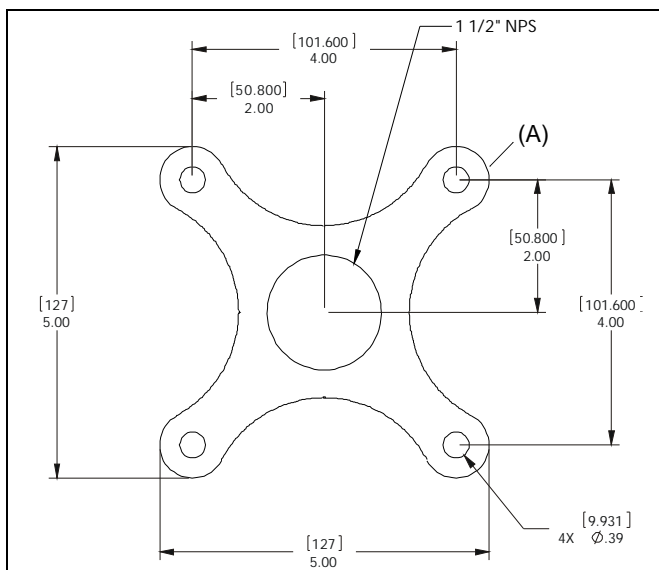

Figure 1
1. Using the ceiling plate (A) as a template, mark mounting locations and drill 1/4" pilot holes at marked locations.
2. Use 3/8" x 2-1/2" (minimum) Grade 2 lag screws (not provided) to secure ceiling plate (A) to the joists or wood framework, using the bolt holes noted. (See Figure 1) for dimension details.